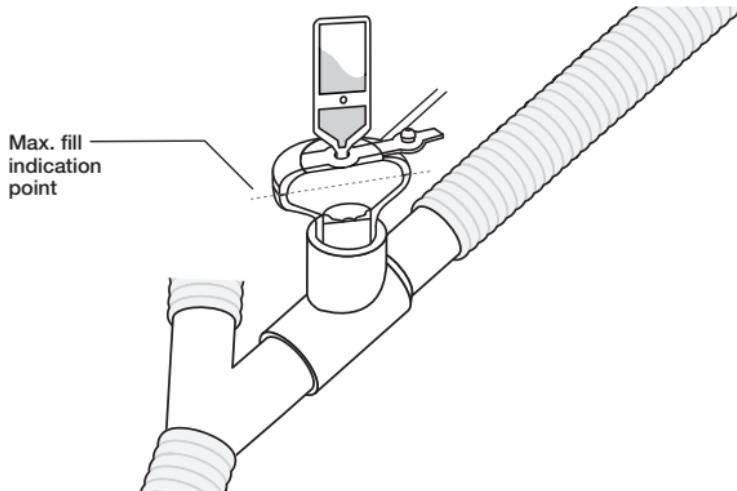

Figure 10. Filling the nebuliser with a pre-filled ampoule
- Use a pre-filled ampoule or syringe to add medication into the filler port of the nebuliser (Figure 10).
The maximum capacity of the nebuliser is 10 mL. Do not fill the nebuliser beyond the maximum fill indication point (Figure 10). The underside of the filler cap represents maximum fill indication point.